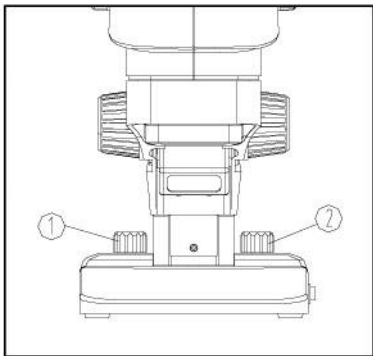

Fig. 3
### Setting Illumination (Fig. 3)
Turn the light adjustment knobs ① and ② as shown on the base in Fig. 3: turn clockwise to increase brightness; counterclockwise to decrease brightness.